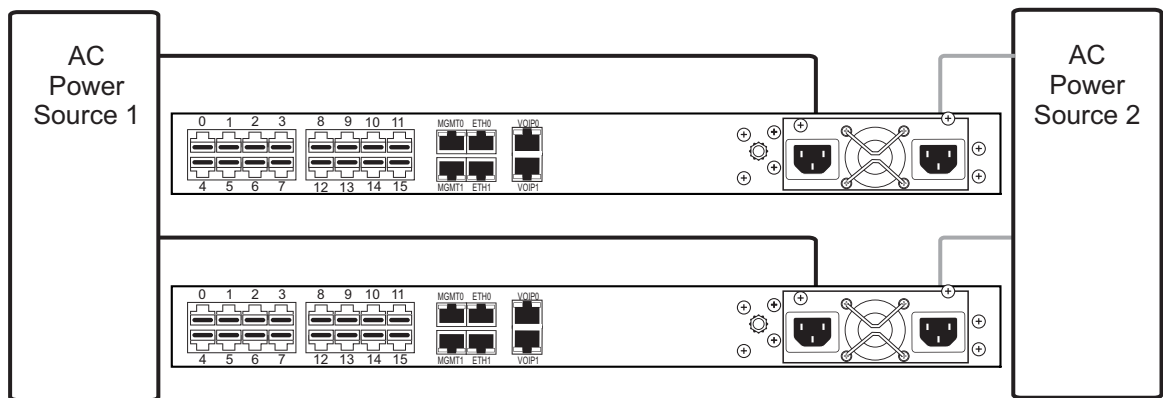

Figure 2.13 TSBC5000 Series and TSBC5000 Series +1 AC Power Connections
1. Connect the first power connector of each unit to the first power source. See Figure 2.13.